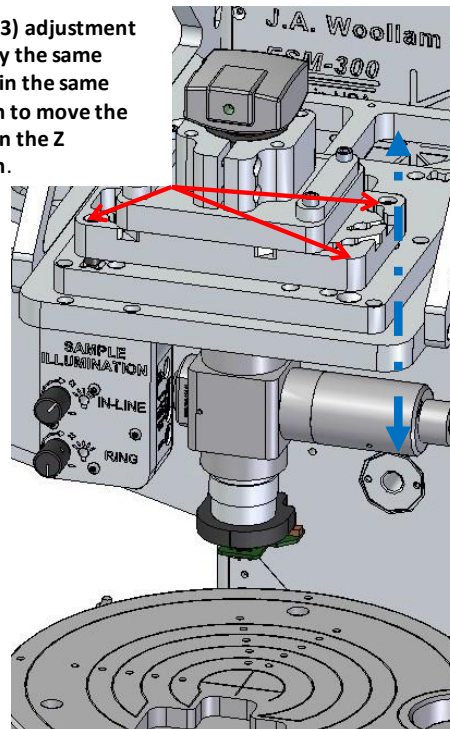

Figure 8-5. Standard Camera adjustment.
- a. **Standard Camera.** If necessary, tilt the standard camera to center the beam on the screen. Use the diagonal adjustment screws of the camera tilt stage, shown in Figure 8-5. If the camera image is not in focus, adjust the Z height of the camera by turning each adjustment screw on the tilt stage by the same amount.